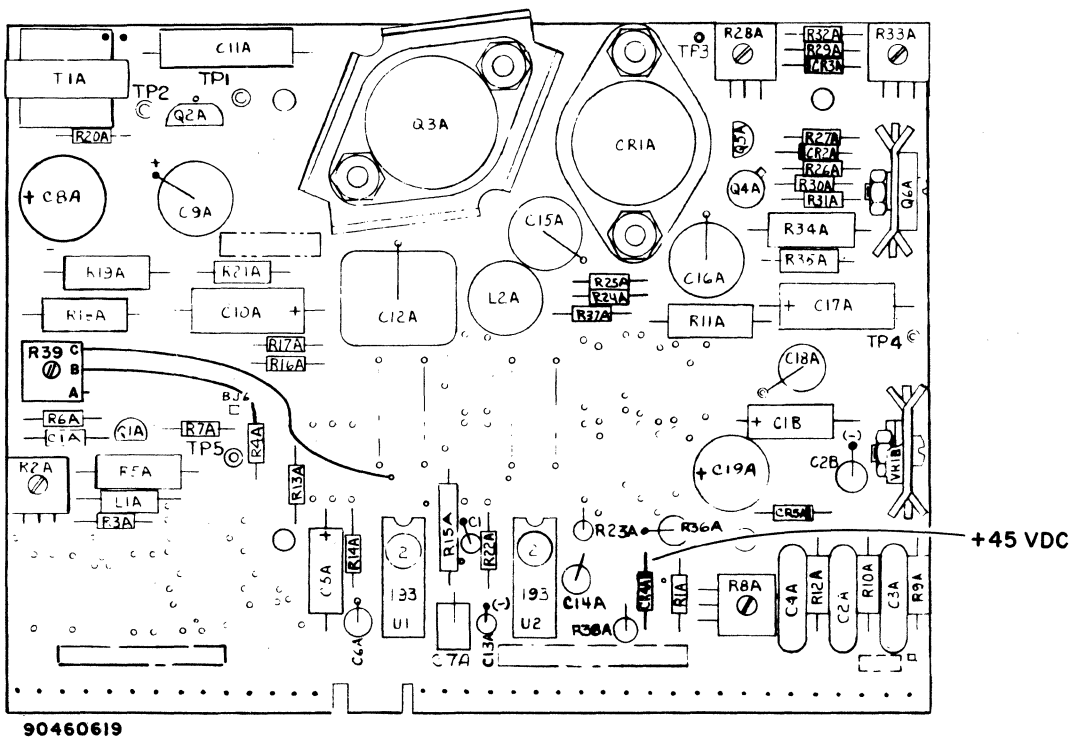

Figure CRT31. Test Point for +45-V dc
- 13) Connect red (+) lead to diode CR4A (figure CRT31).